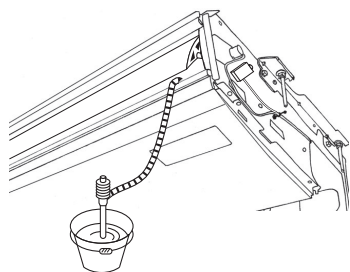

Fig. 5-3
- Check for correct drainage. (Fig. 5-3)